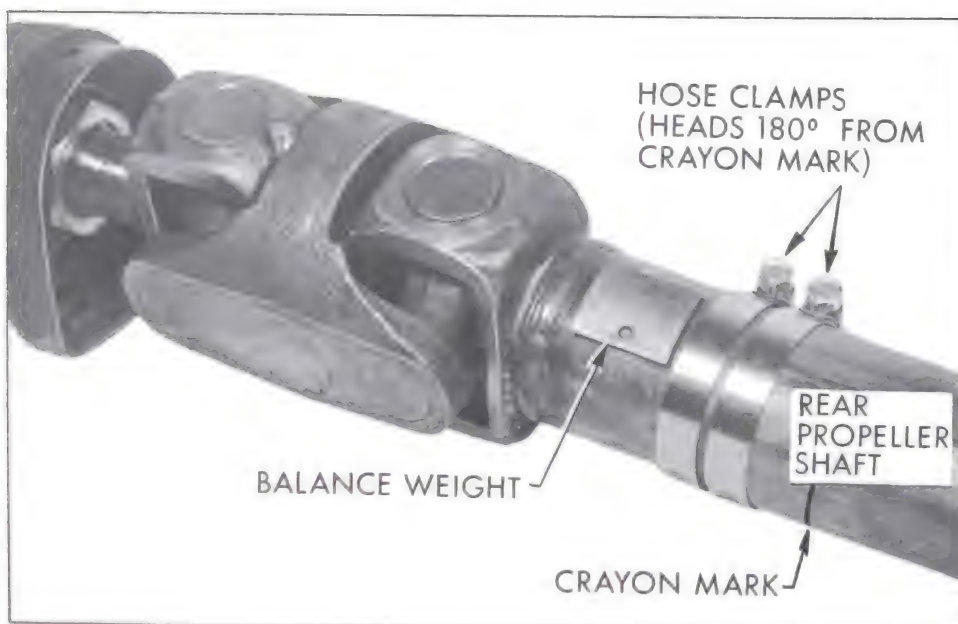

Figure 6-76—Hose Clamps in Place Opposite Crayon Mark
5. Place the two hose clamps side by side with the heads together and 180° from the crayon marking. See Figure 6-76. Tighten the clamps.